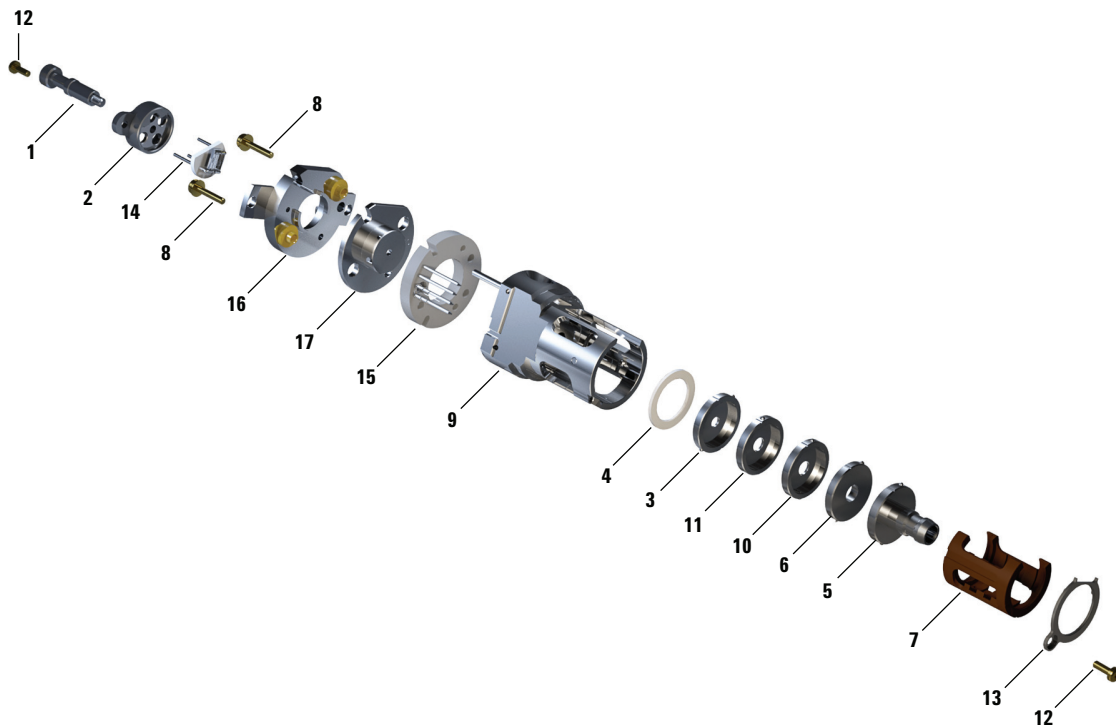

Figure 48 Exploded parts view of the EI HES
Refer to the exploded parts view **Figure 48** and the EI HES parts list **Table 17** on page 155 while using this procedure.
Table 17 Parts list for EI HES (Figure 48)
**Table 17 Parts list for EI HES (Figure 48) (continued)**